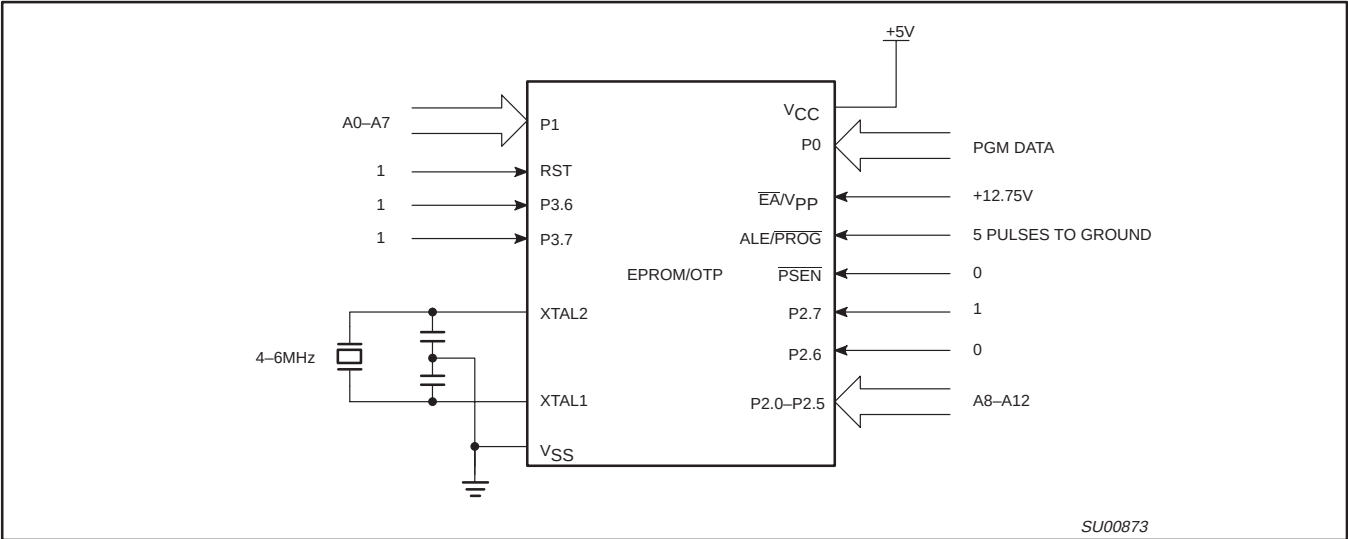

Figure 26. Programming Configuration
Table 8 shows the logic levels for reading the signature byte, and for programming the program memory, the encryption table, and the security bits. The circuit configuration and waveforms for quick-pulse programming are shown in Figures 26 and 27. Figure 28 shows the circuit configuration for normal program memory verification.
The setup for microcontroller quick-pulse programming is shown in Figure 26. Note that the device is running with a 4 to 6 MHz oscillator. The reason the oscillator needs to be running is that the device is executing internal address and program data transfers.
The address of the EPROM location to be programmed is applied to ports 1 and 2, as shown in Figure 26. The code byte to be programmed into that location is applied to port 0. RST, $\overline{PSEN}$ and pins of ports 2 and 3 specified in Table 8 are held at the 'Program Code Data' levels indicated in Table 8. The ALE/PROG is pulsed low 5 times as shown in Figure 27.
* FOR PROGRAMMING CONFIGURATION SEE FIGURE 26.